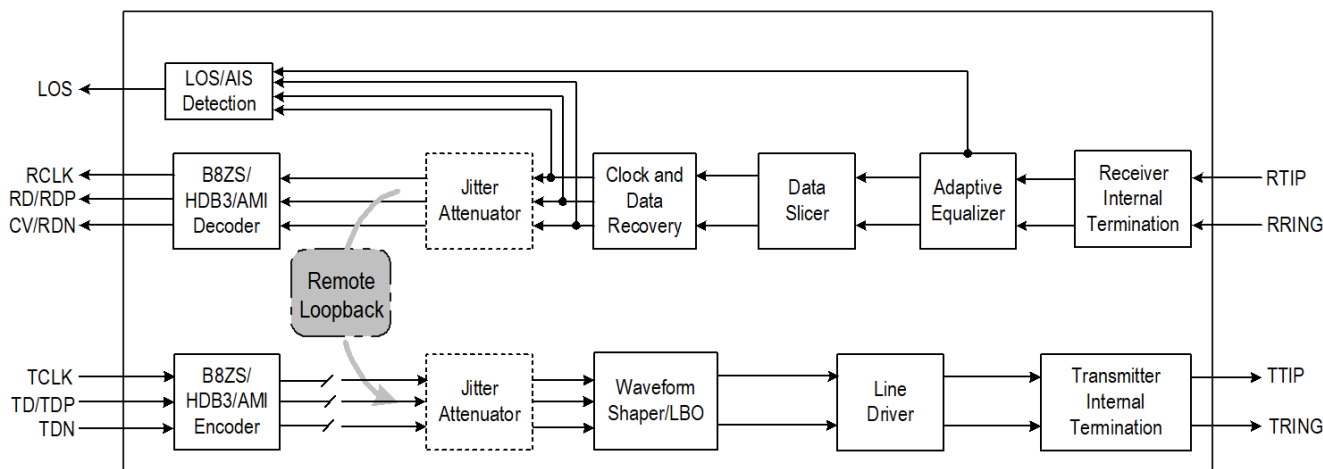

Figure-15 Remote Loopback
When the RLP bit (MAINT1, 0EH) is set to '1', the chip is configured in Remote Loopback mode. In this mode, the recovered clock and data output from Clock and Data Recovery on the receive path is looped back to the jitter attenuator (if enabled) and Waveform Shaper in transmit path. Figure-15 shows the process.
5.1 s, the Remote Loopback (shown as Figure-15) will be established automatically, and the RLP_S bit (STAT1, 18H) will be set to '1' to indicate the establishment of the Remote Loopback. The IBLBA_S bit (STAT0, 17H) is set to '1' to generate an interrupt. In this case, the Remote Loopback mode will still be kept even if the receiver stop receiving the Activate Loopback Code.